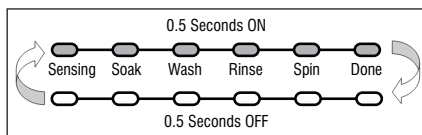

Figure 2 - Status LEDs flashing ON and OFF
- Turn cycle selector knob until the status LEDs flash ON and OFF and “01” is displayed on 7-segment. (See figure 2, page 2).